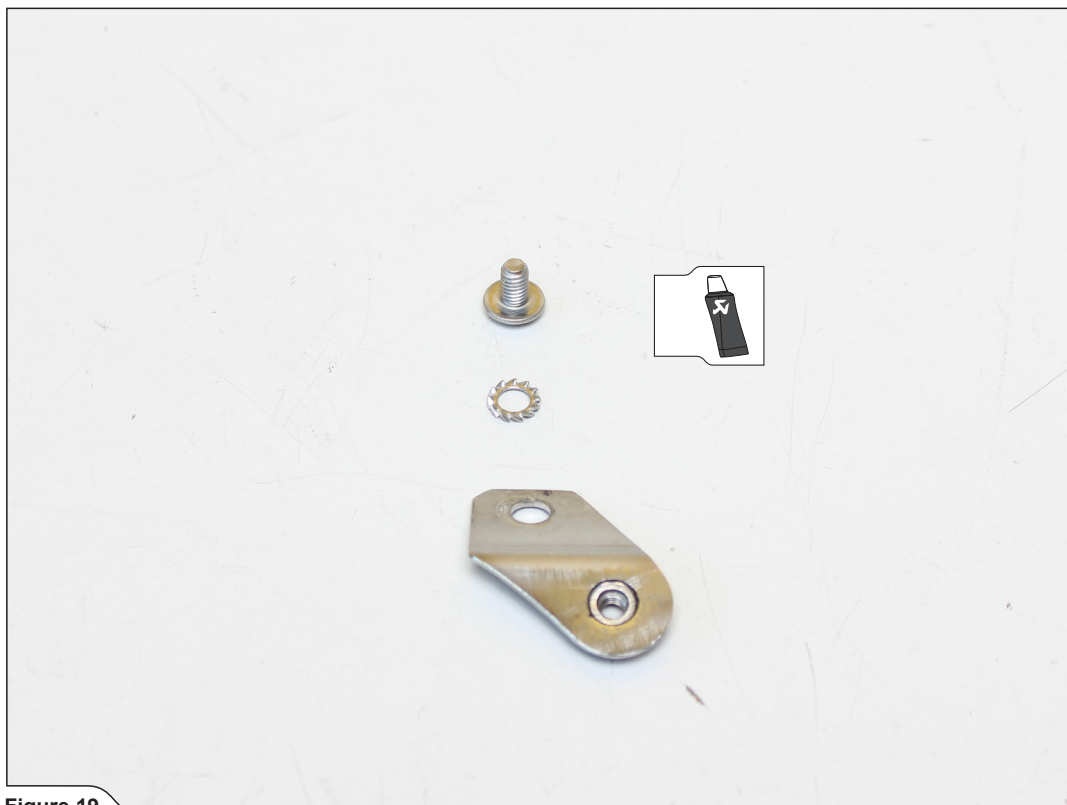

Figure 19
14. Install and tighten heat-shield bracket onto the header, as shown (Figure 19, 20).